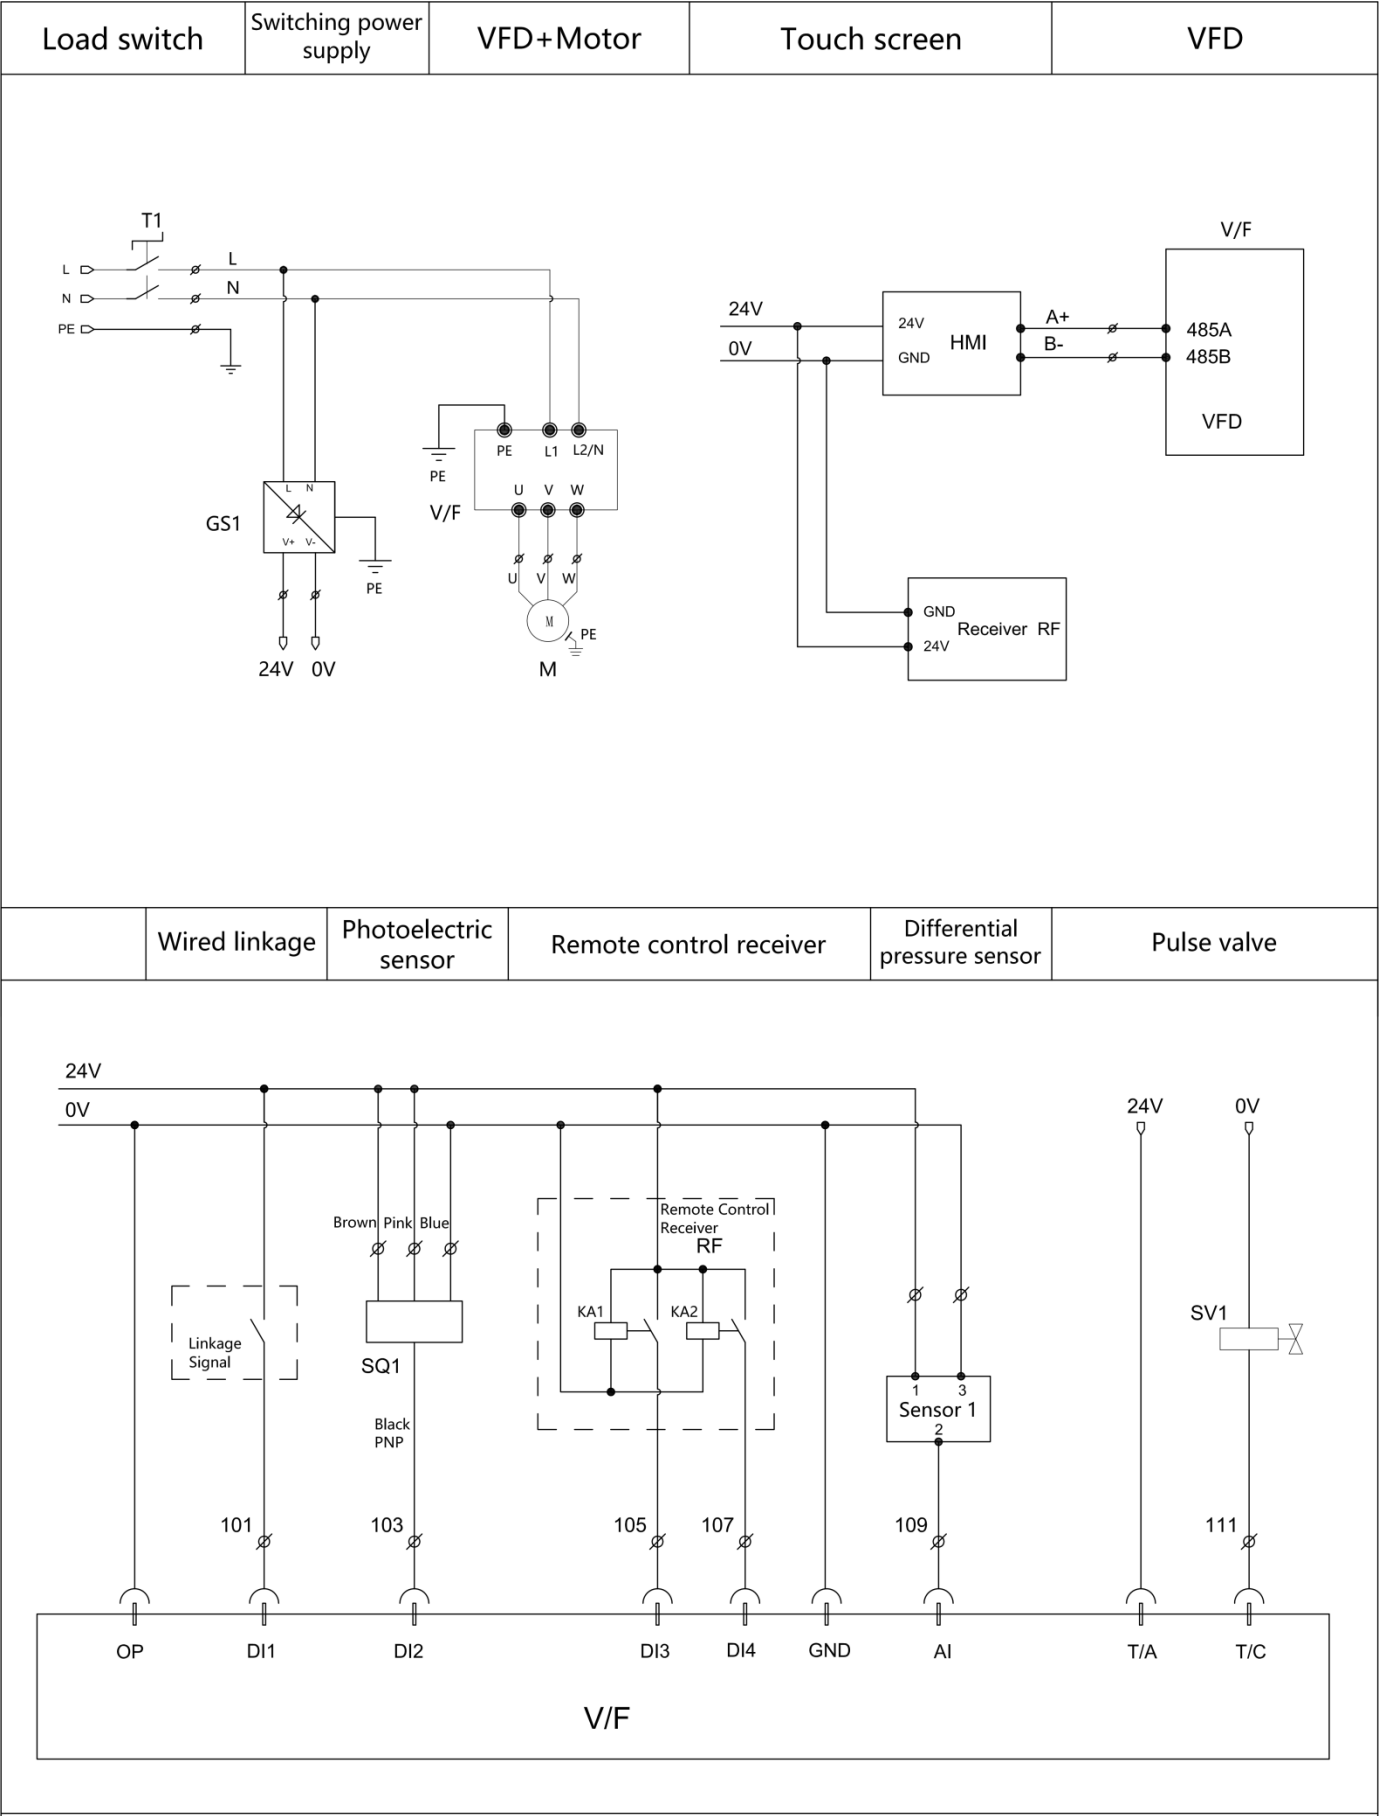

Fig.2
3.3.4 Electrical diagram (Fig. 2)